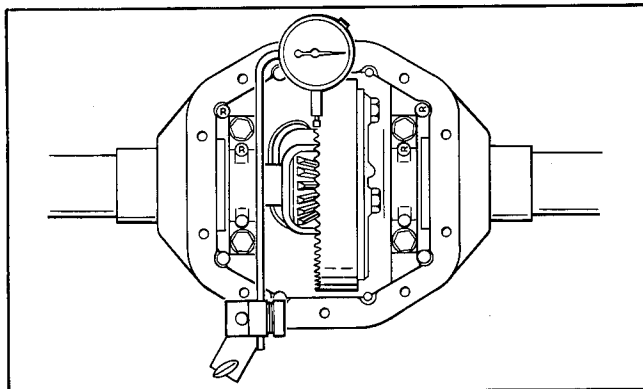

Figure 4-5 – Ring and Pinion Backlash Check
- f. Check backlash with dial indicator, Figure 4-5. Place contact point of dial indicator on a ring gear tooth. Hold pinion shaft and move ring gear back and forth without moving the pinion gear or shaft. Repeat backlash check at four equally spaced points around ring gear. Backlash must be held between .004 in. (.1 mm) and .008 in. (.2 mm) and must not vary more than .002 in. (.05 mm) between positions checked. Readings in excess of specifications indicate worn ring and/or pinion gear or improper backlash adjustment.